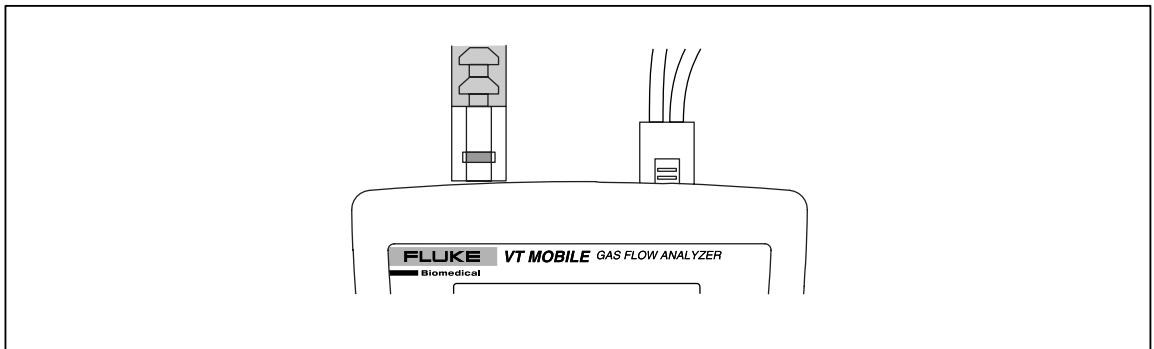

Figure 3-3. Flow Sensors and Pressure Adapters Connected
3. Reconnect the sensors/adapters (Figure 3-3.)